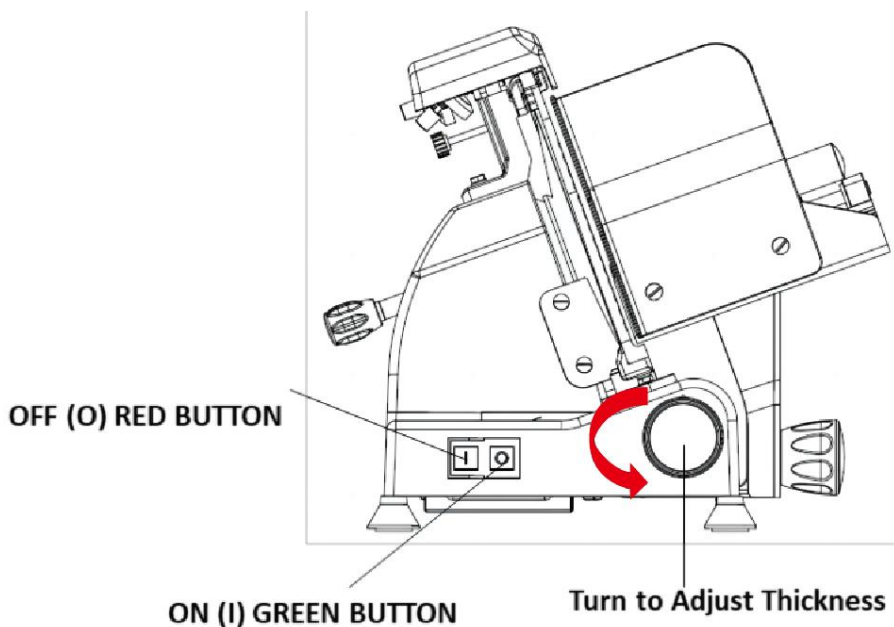

Fig. 2
5.To turn the meat slicer ON, push the Green "I" button. (Refer to Fig. 2)
6.To turn the meat slicer OFF, push the Red "O" button. (Refer to Fig. 2)
8.Place a tray or plate behind the Meat Slicer and below the Blade (Part ⑧) to collect the sliced food as it exits the blade area.
9.Hold the Food Pusher Handle (Part ⑪) with your right hand. Keep your hands protected behind the Food Pusher ⑤.
12. When finished, turn the meat slicer "OFF" (O) by pushing the Red button. (Refer to Fig. 2)
14. For safety, always rotate the Thickness Adjustment Knob (Part ②) to the "O" position after use to properly shield the sharp edge of Blade (⑧).